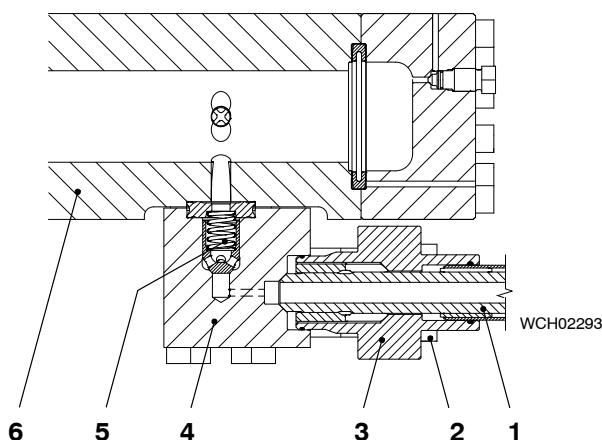

Fig. 3
- 9) Loosen the four screws (2, Fig. 3) on the flange (3) a maximum of three turns.
- 10) Move the flange (3) away from the valve housing (4) and make sure that air goes into the HP fuel pipe (1).